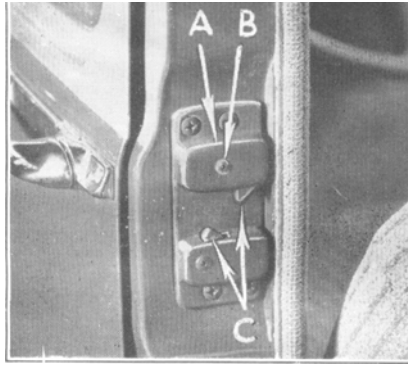

Figure 56
Door strikers and bumpers are of the adjustable type. In their normal setting the door should raise about 1/32" as the door dovetail rides over the pillar striker (A), Fig. 56. The dovetail is stationary on the door, while the striker is adjustable for movement up and down and sideways. When properly adjusted the doors should close as a slight pressure is applied.
Door dovetail wicks and door striker wicks (B), Fig. 56, should receive a few drops of light engine oil every 1,000 miles.